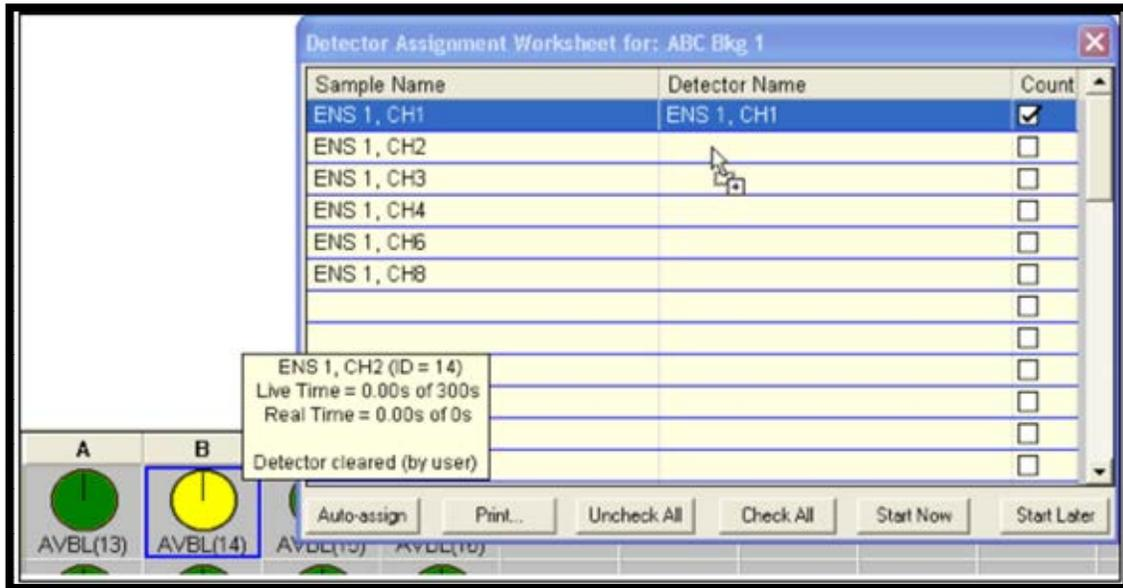

Figure 114. Assigning a Detector by Dropping its Icon in the Worksheet
- Otherwise, assign detectors either with the **Auto-assign** button or by dragging an available detector from the Detector Grid to each of the samples on the worksheet (Figure 114).16